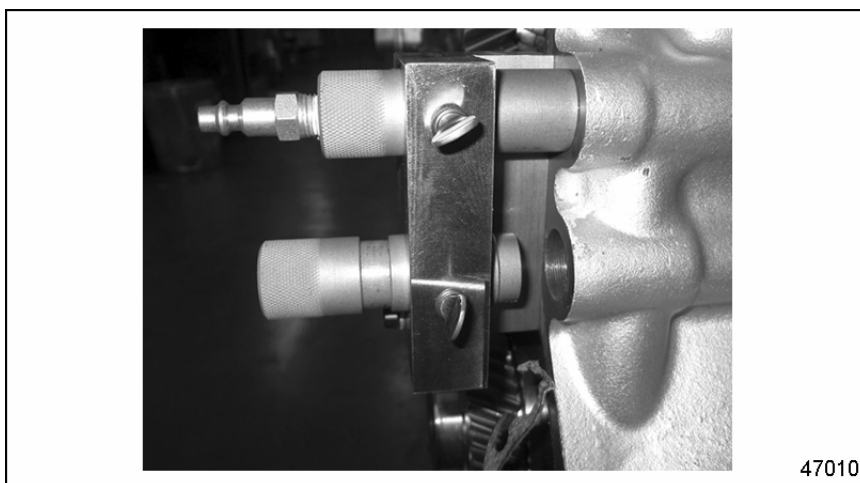

Figure 5 Adapter Block, Centering Adaptor, and Air Fitting Adaptor
3. Install the Air Fitting Adaptor (J-47485-3) in the top hole and the Centering Adaptor (J-47485-4) in the bottom hole of the Adapter Block (J-47485-1). The Air Fitting and Centering Adaptors will help center the Adapter Block to the cup plug bores. See Figure 5.
4. Finger tighten the two set screws. See Figure 5.